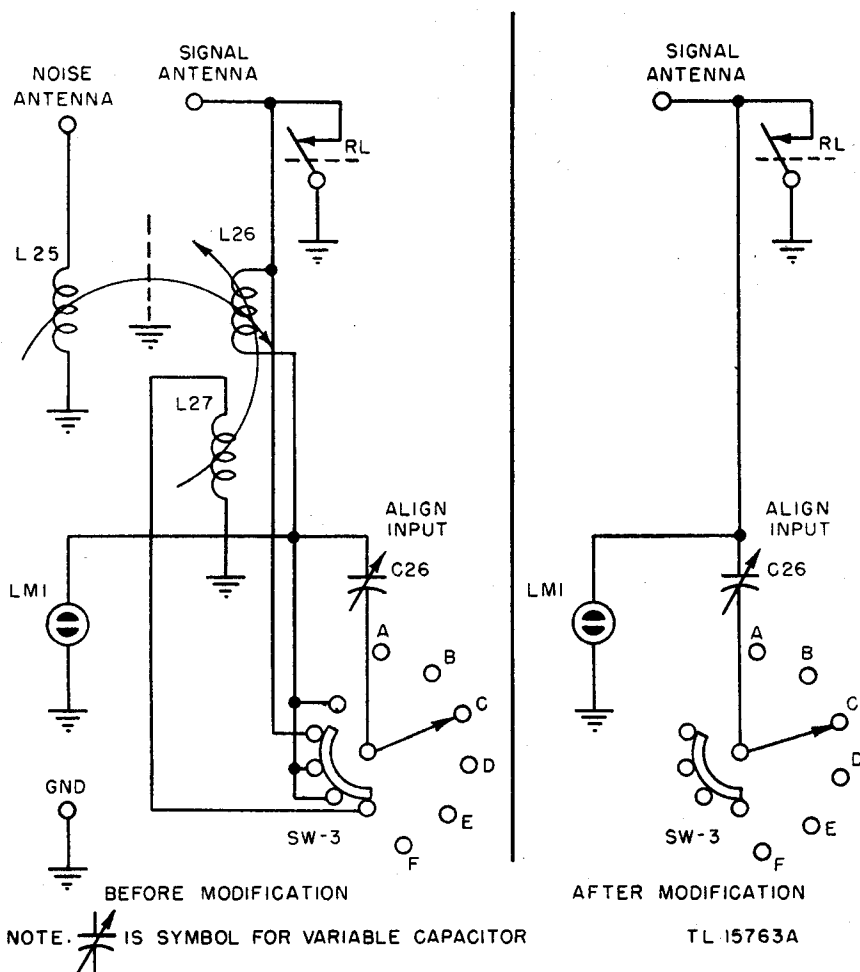

Figure 38. Elimination of noise-suppression circuit.
(6) With the noise-suppression circuit eliminated, the antenna circuit in the receiver will appear as in the diagram of figure 38.
(7) Check the receiver alignment and replace the chassis in its case. Check the over-all receiver performance.